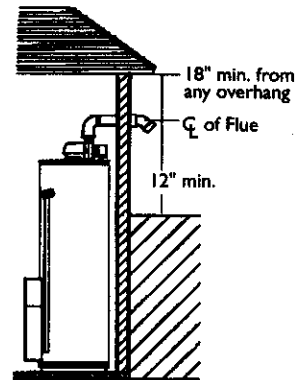

Figure 2
- 12" minimum from the ground, 18" ceiling overhangs. Figure 2.